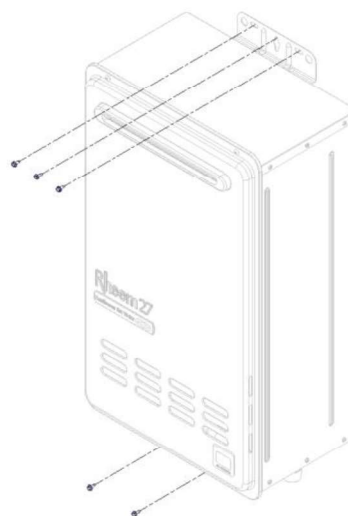

Figure 5
4. Unscrew the CFWH units from the frame mountings. Three screws at top and two at bottom of CFWH units (refer to **Figure 5**).
17. If removed, re-install pump and GPO assemblies, refer to **Figure 5** for pump wiring details